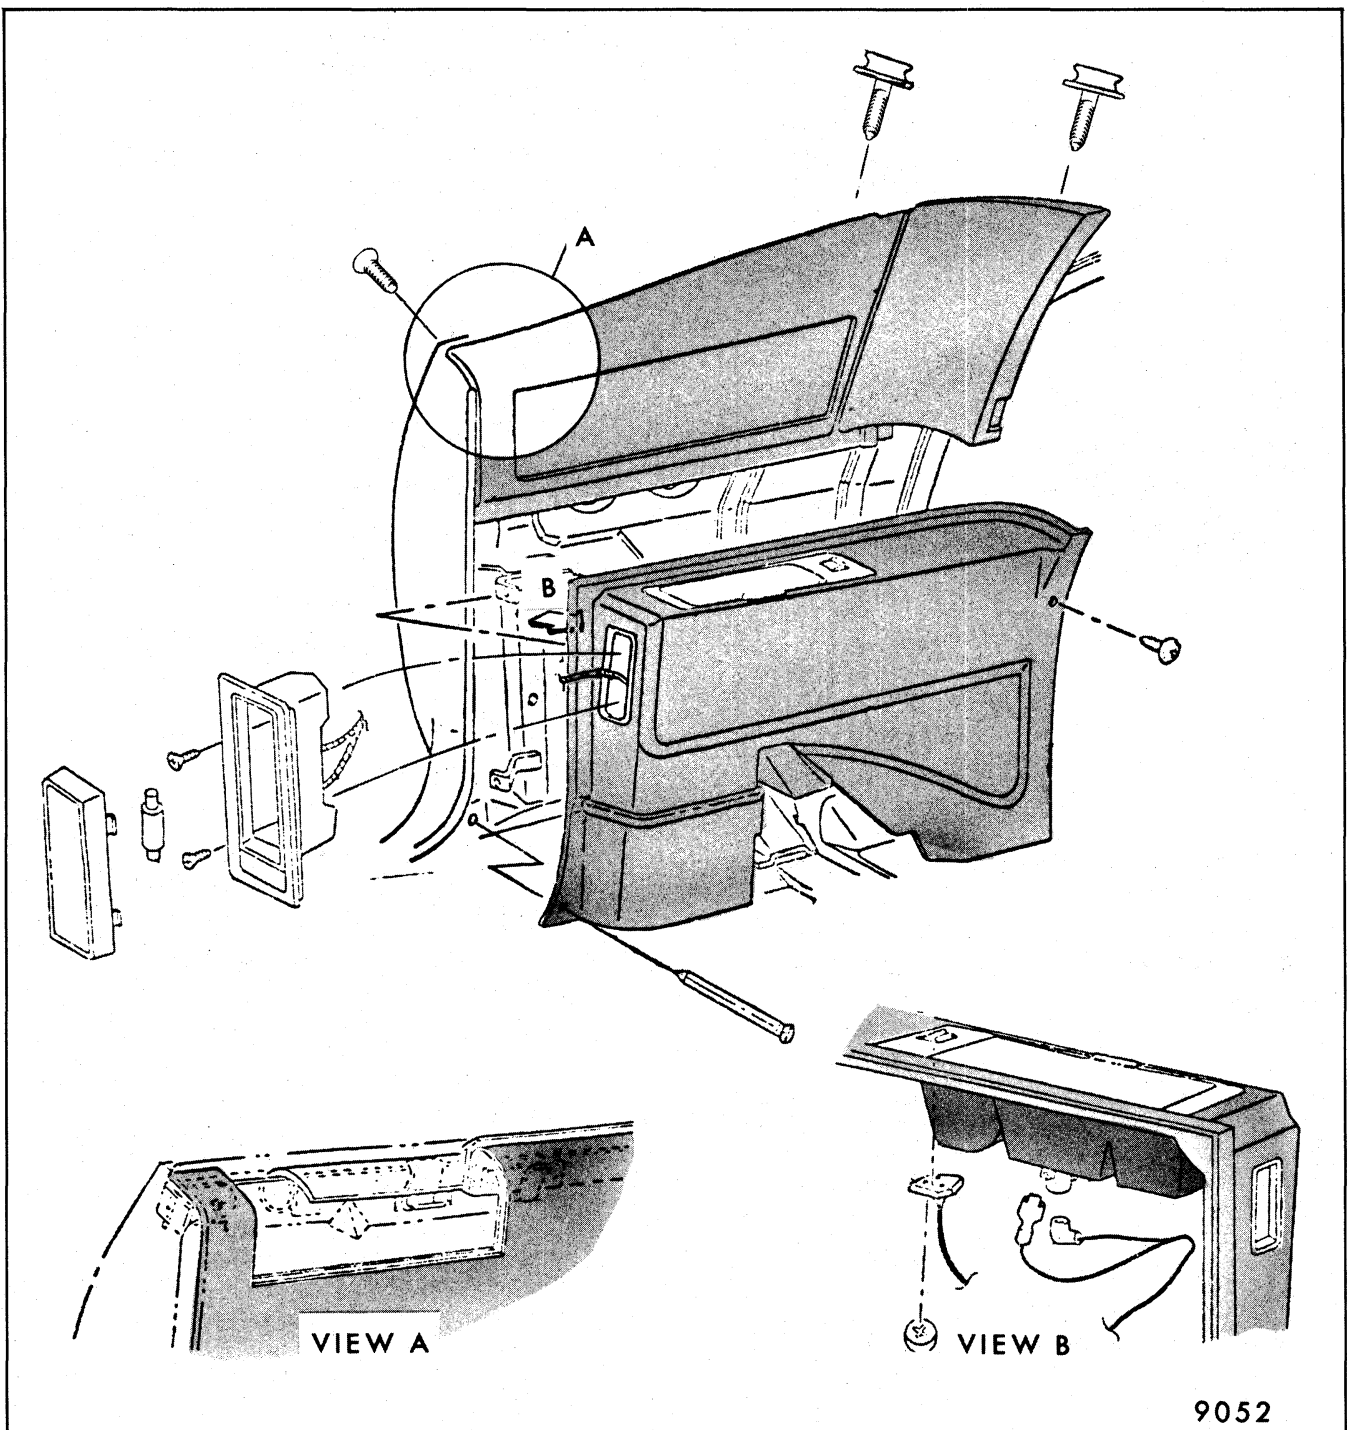

Fig. 6-3-Quarter Trim Assembly Attachment - Cadillac "E-67"
4. Where present, detach electrical wiring and remove trim assembly (View "A", Fig. 6-1; View "B", Fig. 6-3).